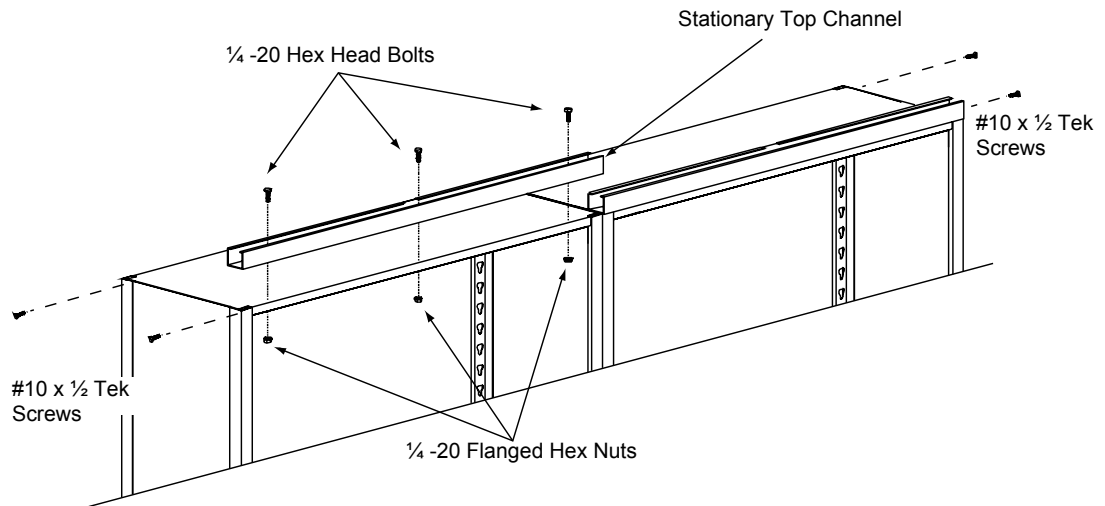

FIGURE 1
STEP 2 Attach the Stationary Top Channels to the tops of the stationary shelving sections. Position each channel flush and even with the sides and front of each of the top shelf sections and drill three (3) 5/16 diameter clearance hole in the top shelves. Attach the channel by using three (3) 1/4-20 x 3/4 hex head bolts and secure using the 1/4 - 20 flange nuts. Repeat this step for each rear stationary section. Using the #10 x 1/2 Tek screws, fasten the top shelf to the upright posts. ***See Figure 1.***